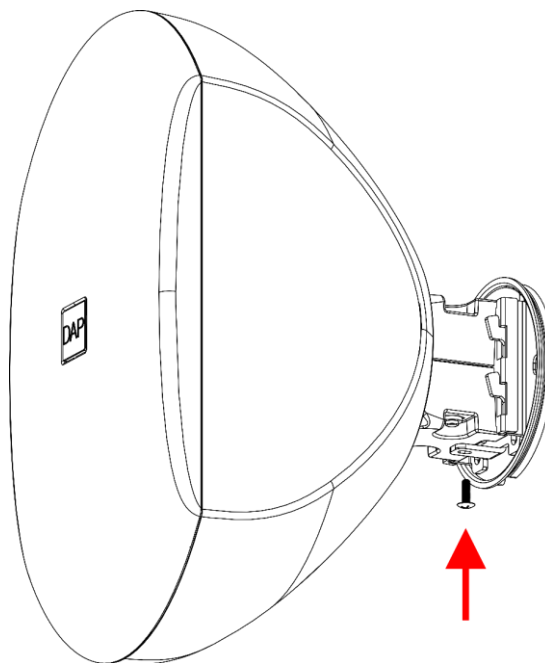

Fig. 18
- 03) Insert the **mounting screw (09)** and tighten it with the Phillips screwdriver (Fig. 18).